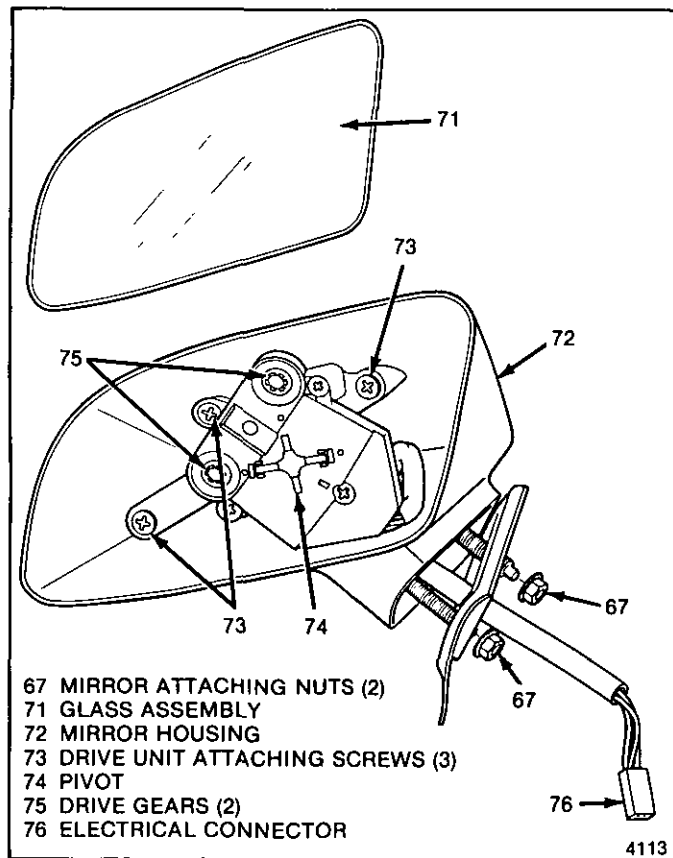

Fig. 5-21-Power Remote Outside Mirror Parts
**↔ Remove or Disconnect (Figure 5-21)**
1. Glass inboard and outboard edges of glass (71)
### ↔ Install or Connect (Figure 5-21)
#### ↔ Remove or Disconnect (Figure 5-21)
#### ↔ Install or Connect (Figure 5-21)